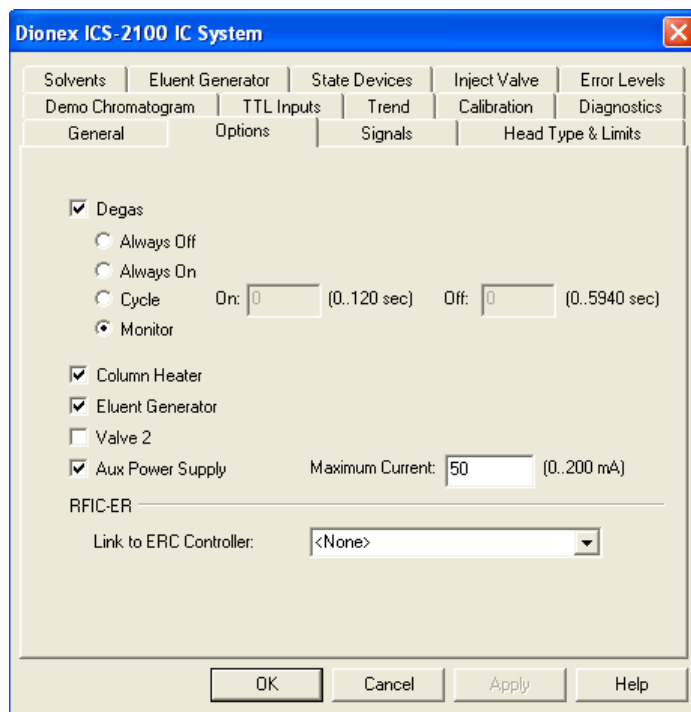

Figure 19. Example Properties Dialog Box: Options Tab Page
- On the Options tab page, select the **AuxPower Supply** check box (see Figure 19) and enter the **Maximum Current** allowed for the